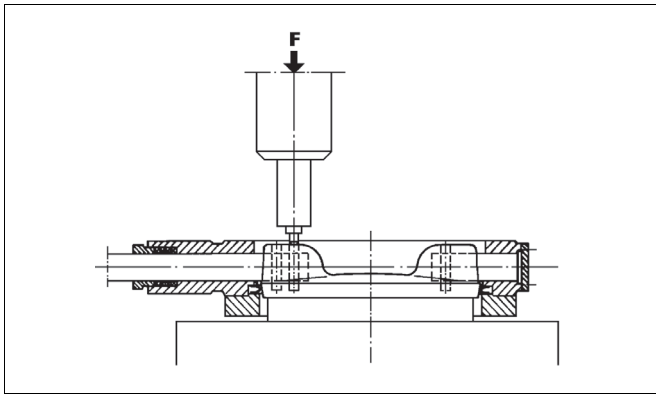

Fig. 17 Pressing the pins
- Support the disc well in a horizontal position during mounting of the pins. Push the new pins into the holes and press them in a press to final form (see Fig. 17). Use a smaller tool than the pin diameter. See Table 5 for forces.
- Install the gasket (18) and the blind flange (10).